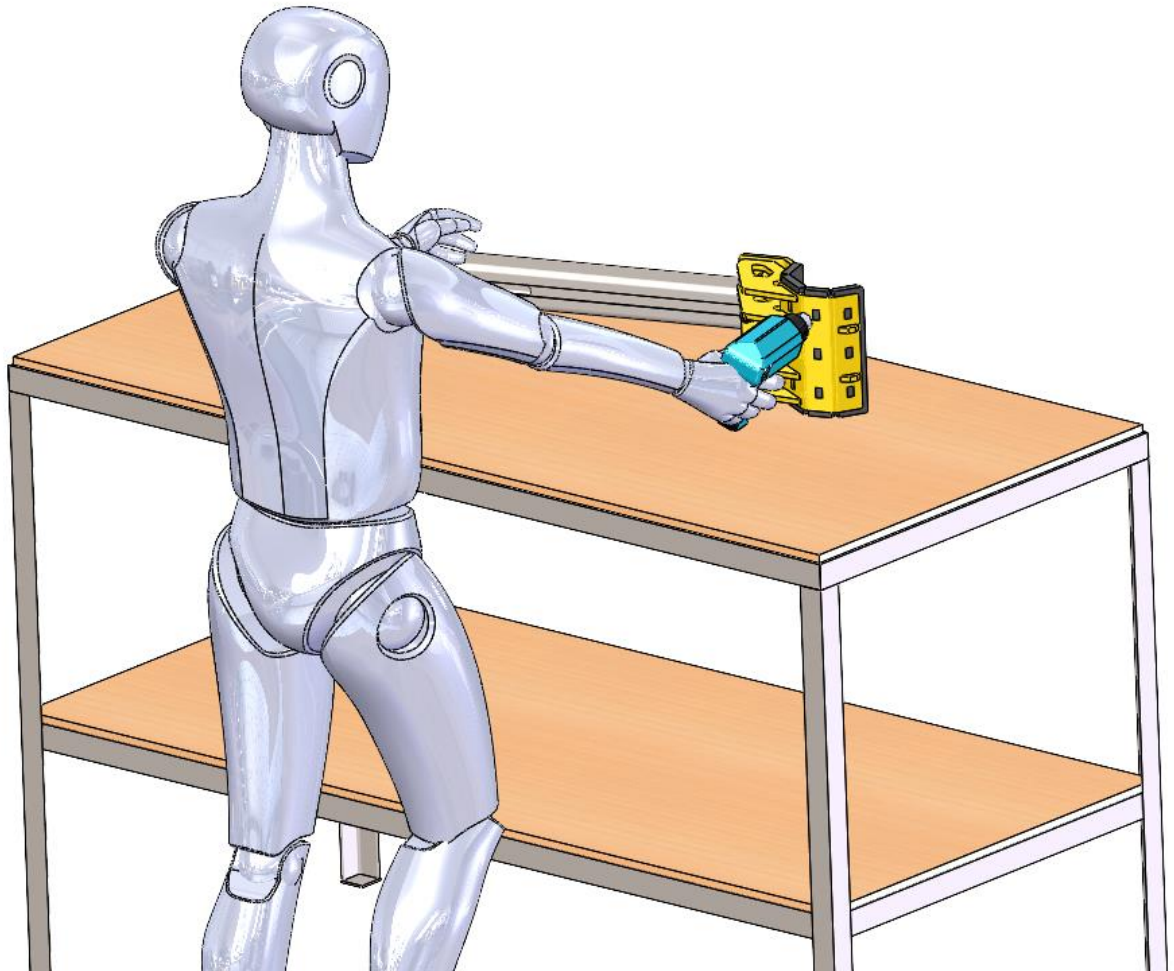

Fig. 2
a. Use the thermal blower on the back of the claw (2-1/1) under protection (2-1/5) for 5 minutes to soften the glue and facilitate the detachment of the part, taking care not to overheat the equipment surface. See Figure 2.